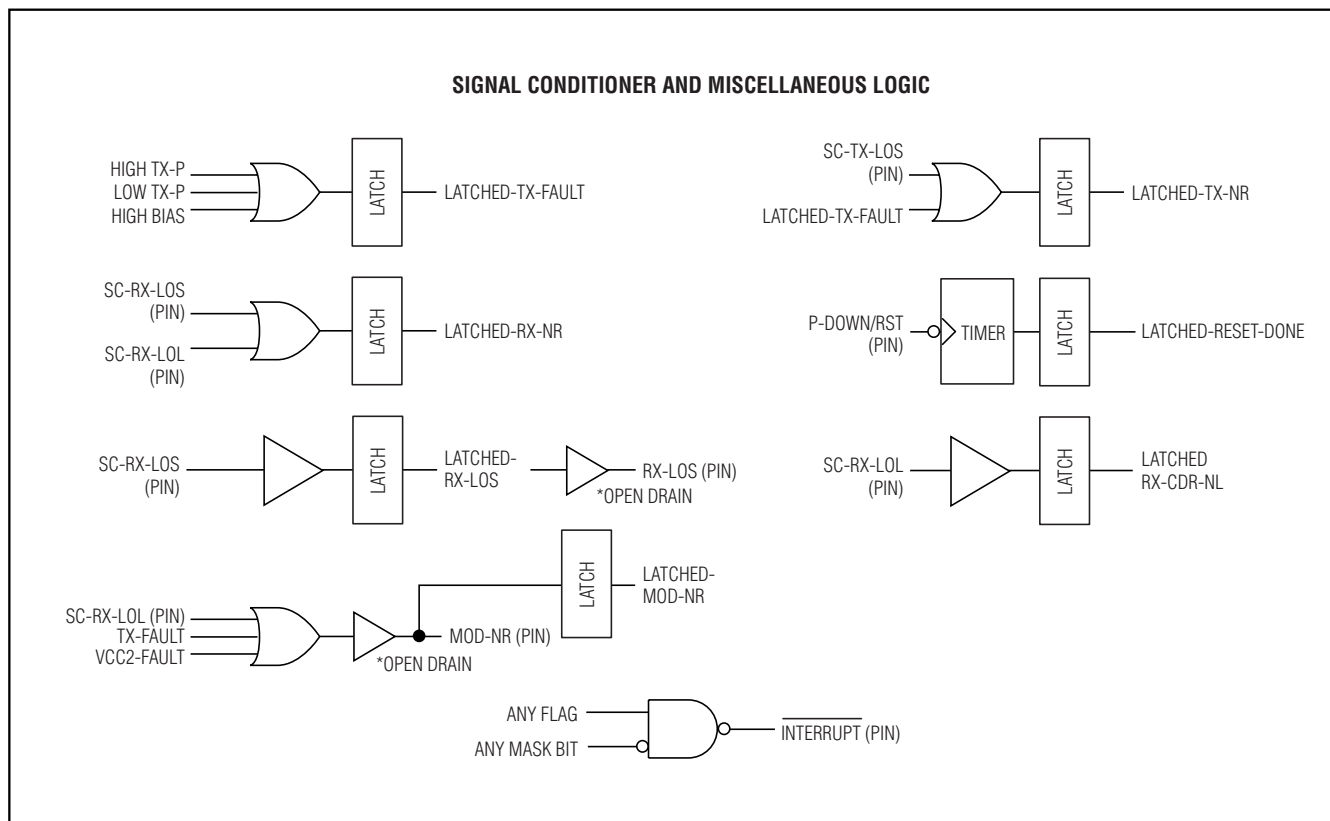

Figure 11. Signal Conditioner and Other Logic
The DS1862 also has flags that are set by certain logical conditions on signal conditioner (SC) pins: SC-RX-LOL, SC-RX-LOS, SC-TX-LOS. Similarly, for each latched signal conditioner flag there are also mask bits that are capable of preventing the alarm or warning flag from causing an INTERRUPT pin to assert. Again, flags are cleared automatically whenever their memory address is read. See Figure 11 for more detail.